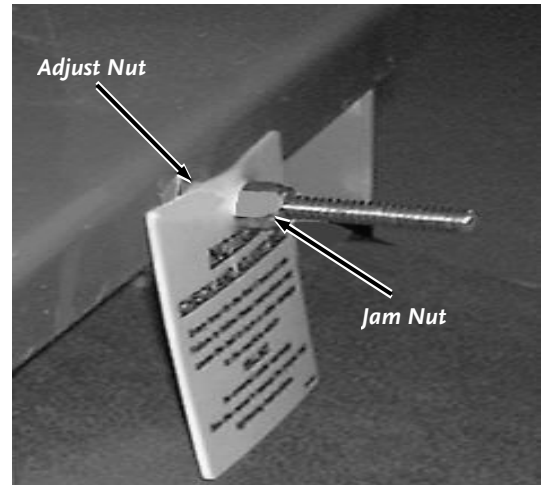

Figure 17
5. Using two 1/2" Wrenches, hold the Belt Adjust Nut while turning out the Jam Nut (**Figure 17** on page 19).